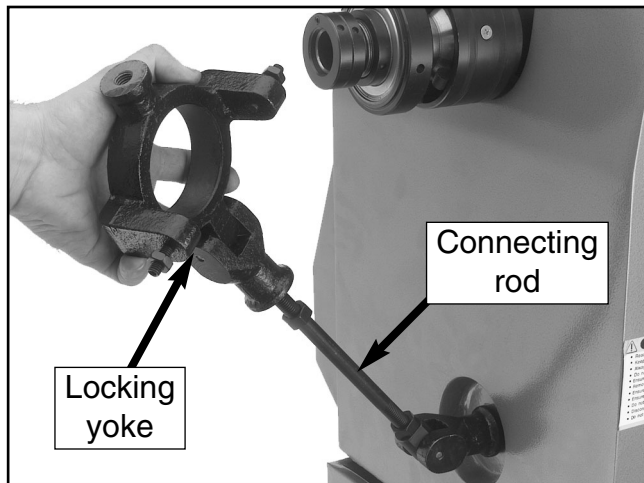

Figure 9. Connecting rod and locking yoke installed on pivot connector.
1. Thread the connecting rod and locking yoke onto the pivoting rod connector as shown in **Figure 9**.